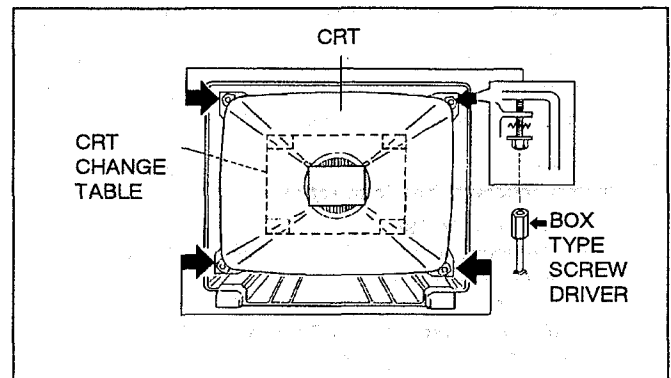

Fig. 4
- 2. While keeping the surface of CRT down, mount the TV set on the CRT change table balanced well as shown in Fig.4.
- 3. Remove 4 screws marked by arrows with a box type screw driver as shown in Fig.4.